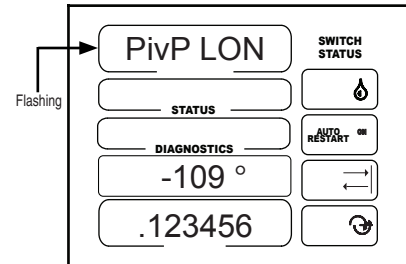

Figure 46-3
3. PivP LON should be flashing and the pivot point longitude value is displayed. Default longitude is 180°. See figure 46-3.